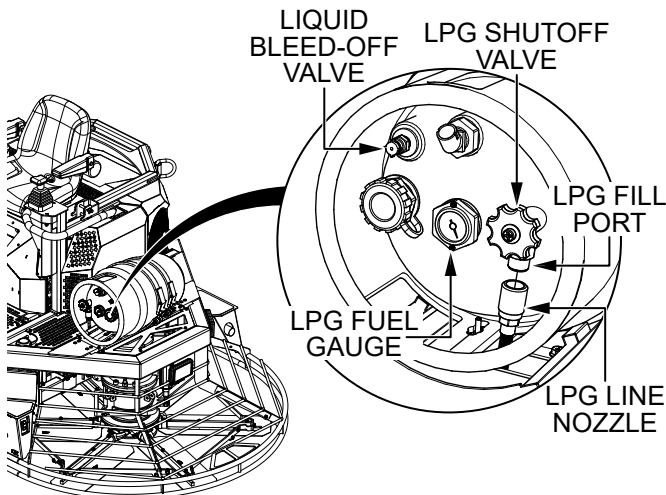

Figure 30. LPG Shutoff Valve
1. Turn the LPG shutoff valve (Figure 30) clockwise until closed.